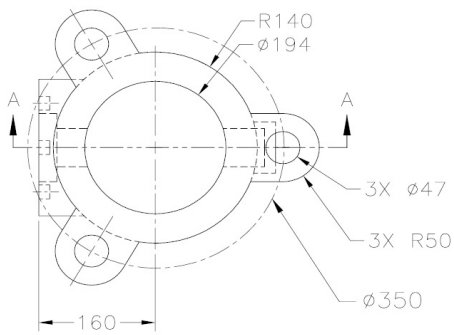
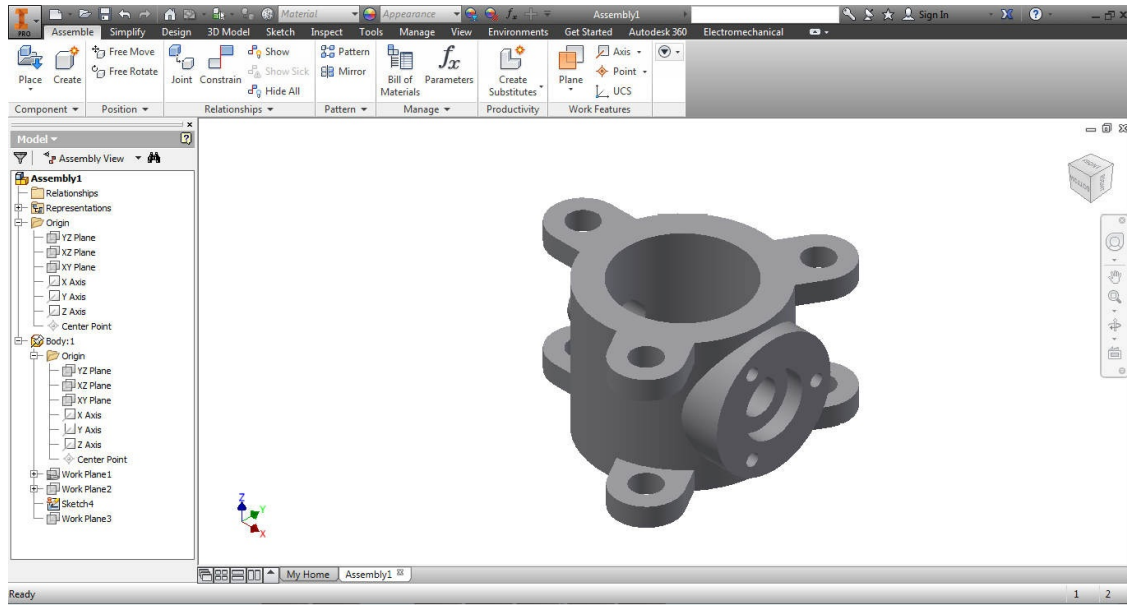

Figure 9-57 Top view of the Body
Figure 9-63 Assembly file in the part modeling environment after creating the Body
7. Create the Body of the Butterfly Valve using the dimensions given in Figures 9-57 to 9-58b. The assembly file after creating the Body is shown in Figure 9-63.